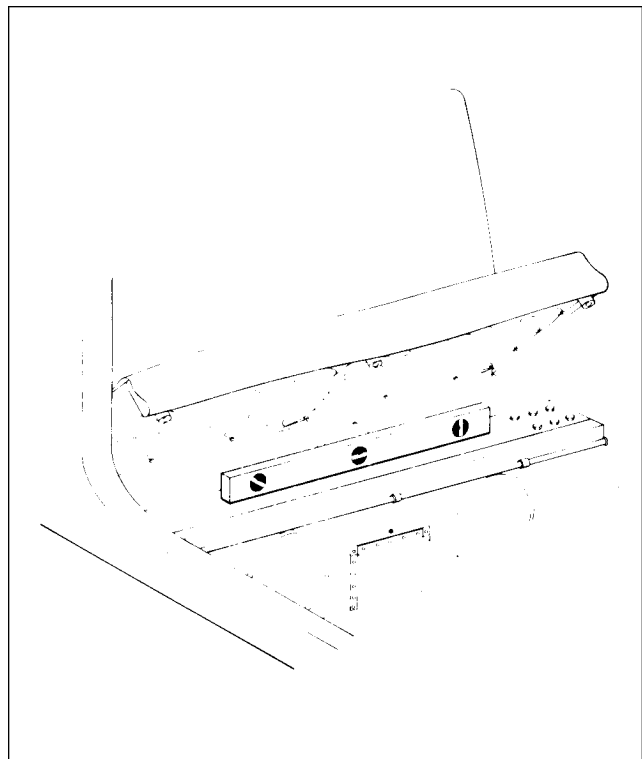

Figure 8-2. Leveling Laterally
2. To laterally level the airplane, place a level across the spar box assembly located under the rear seat. (Refer to Figure 8-2.) Raise or lower one wing tip by deflating the appropriate tire on the high side of the airplane or adjust either jack until the bubble of the level is centered.